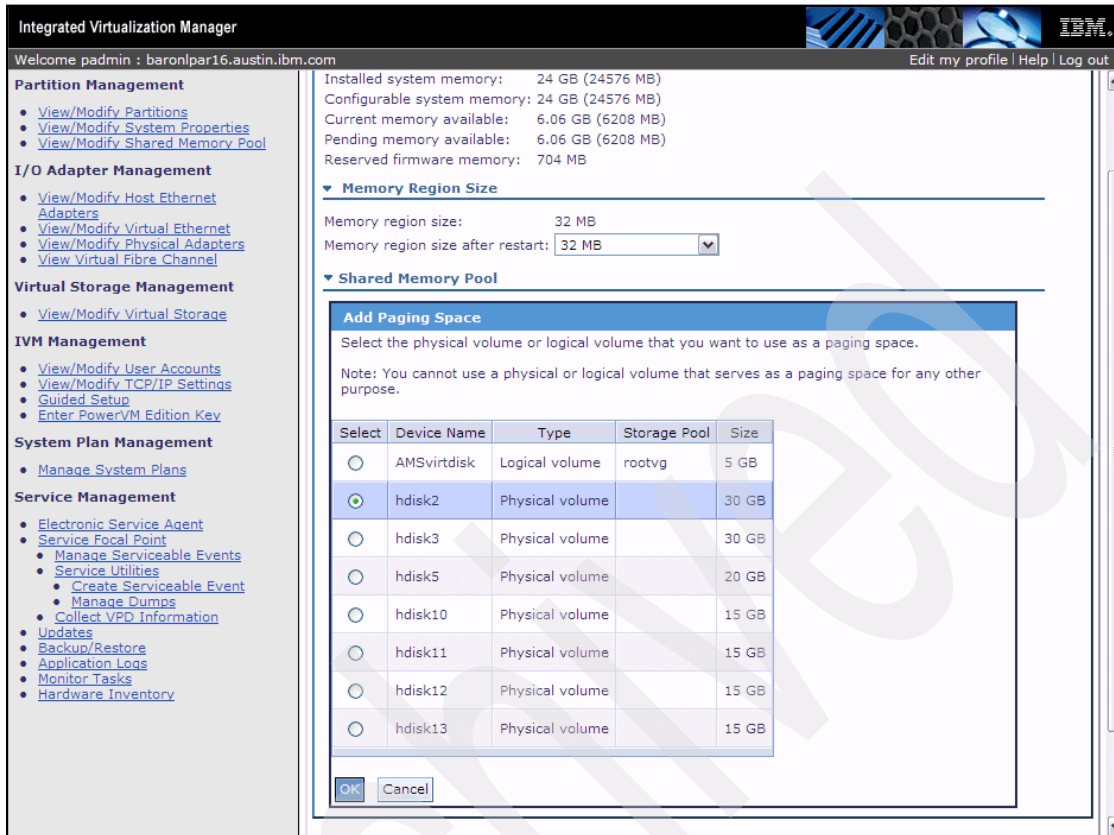

Figure 5-10 Dedicated device selection for share memory use
3. Click **Add** to display the devices that are available for selection. Select a physical volume device, and then click **OK**, as shown in Figure 5-10 on page 188.